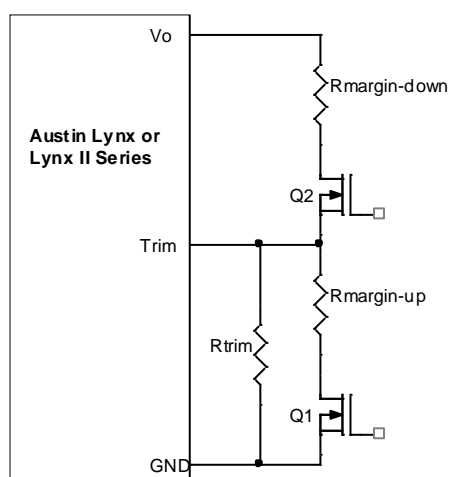

Figure 31. Circuit Configuration for margining Output voltage.
To provide over temperature protection in a fault condition, the unit relies upon the thermal protection feature of the controller IC. The unit will shutdown if the thermal reference point T_{ref2} , (see Figure 31) exceeds 150°C (typical), but the thermal shutdown is not intended as a guarantee that the unit will survive temperatures beyond its rating. The module will automatically restarts after it cools down.
Output voltage margining can be implemented in the Austin MicroLynx™ modules by connecting a resistor, $R_{\text{margin-up}}$, from Trim pin to ground pin for margining-up the output voltage and by connecting a resistor, $R_{\text{margin-down}}$, from Trim pin to Output pin. Figure 31 shows the circuit configuration for output voltage margining. The POL Programming Tool, available at www.gecriticalpower.com under the Design Tools section, also calculates the values of $R_{\text{margin-up}}$ and $R_{\text{margin-down}}$ for a specific output voltage and % margin. Please consult your local GE technical representative for additional details.